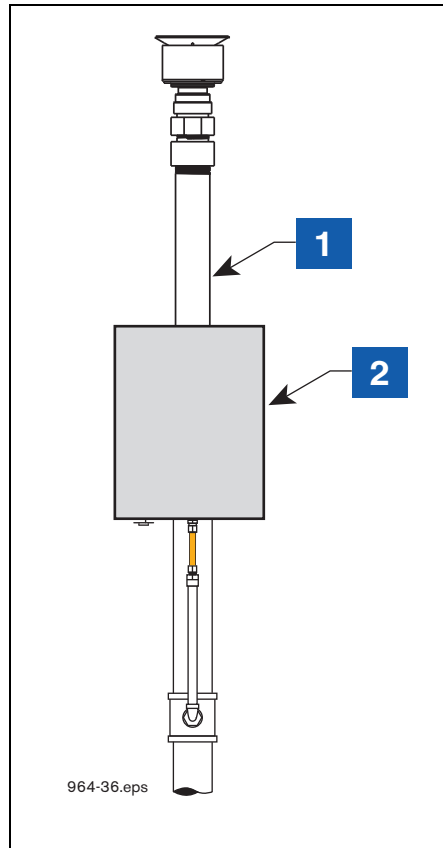

Figure 22. VPS Mounted In Universal Enclosure on the Vent Stack
2. A Transmitter/battery pack pair must be installed with the VPS in the Universal Enclosure and mounted on the vent stack (see Figure 22).
LEGEND FOR NUMBERED BOXES IN Figure 22